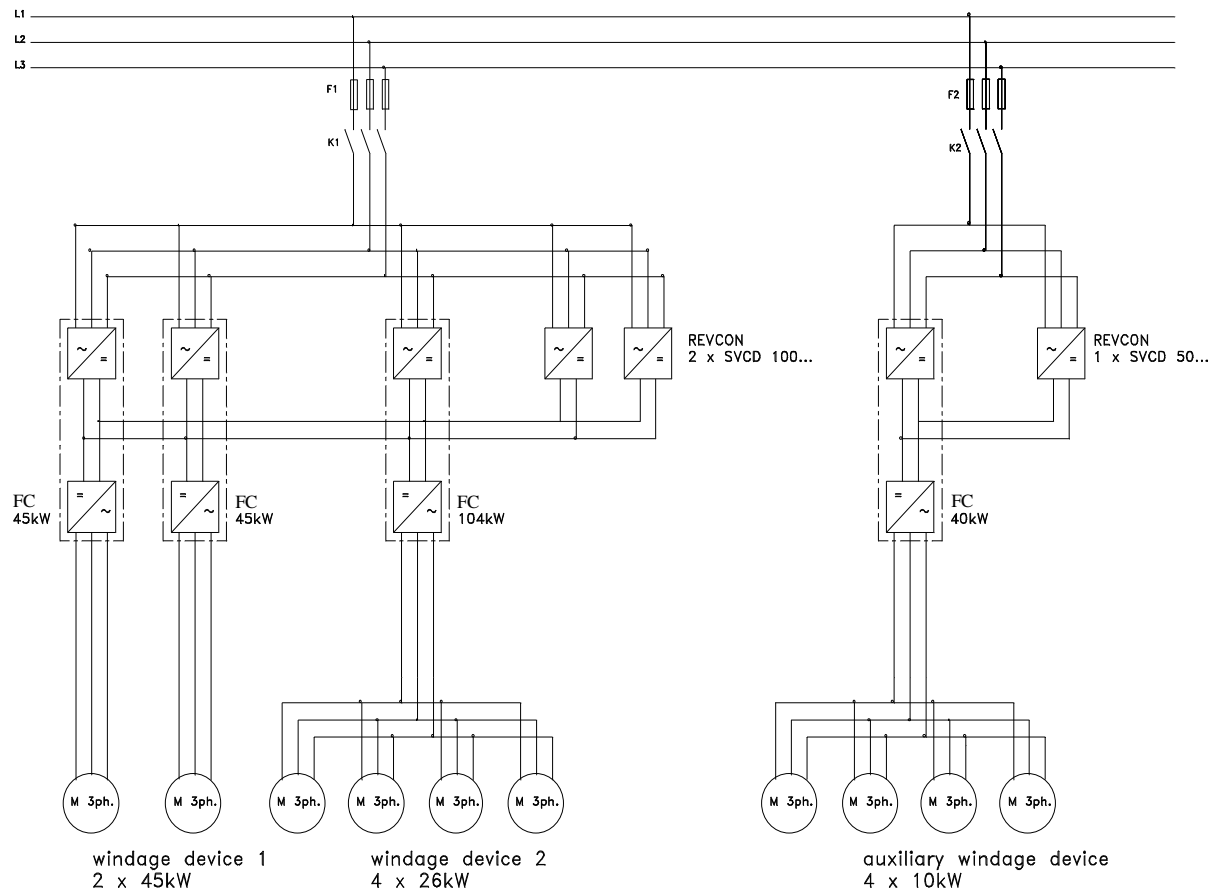

Figure 4.5.1
7. At these terminals one or more controllers (even with different power ratings) may be attached, like it shown in figure 4.5.1. Even if several controllers are attached, the wires have to be as **short and low impedance** as possible!
Within greater plants several power feedback units may be coupled. Figure 4.5.1 shows an example of a crane system with some possible combinations.